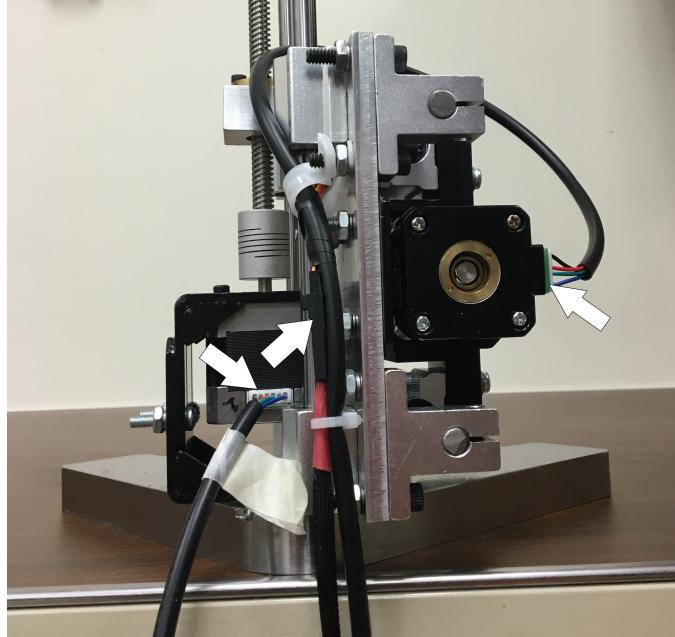

Figure 7: Molex cables secured and out of the way
12. Ensure the three molex cables are securely plugged in to the ARIA (see Figure 7)